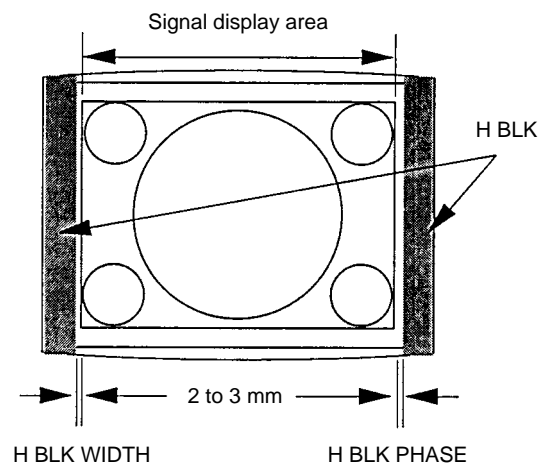

Fig. 1-6
9. Adjust the H. BLK. RIGHT data so that the horizontal blanking is position 0 to 2 mm outside the right end of the monoscope signal display area. (Fig. 1-6)
10. Adjust the H. BLK. LEFT data so that the horizontal blanking is position 0 to 2 mm outside the left end of the monoscope signal display area. (Fig. 1-6)